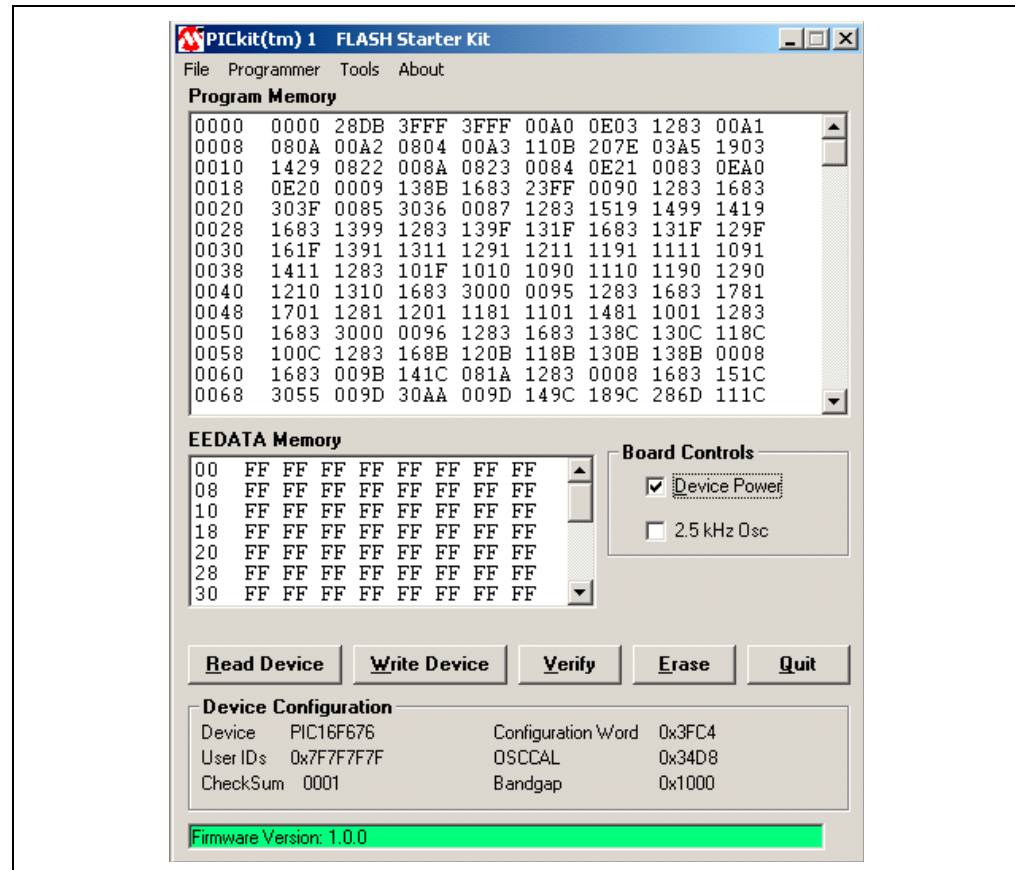

FIGURE 2-4: PICkit™ 1 Flash Starter Kit GUI Window on the PC.
3. When the PICkit 1 Flash Starter Kit is started, the main window will be displayed on the PC, as indicated in Figure 2-4.
4. Switch off the device power by unchecking the **Device Power** box under **Board Controls** in the PICkit 1 Flash Starter Kit window (Figure 2-4). The busy LED on the PICkit 1 Flash Starter Kit will switch off when the device power is switched off.